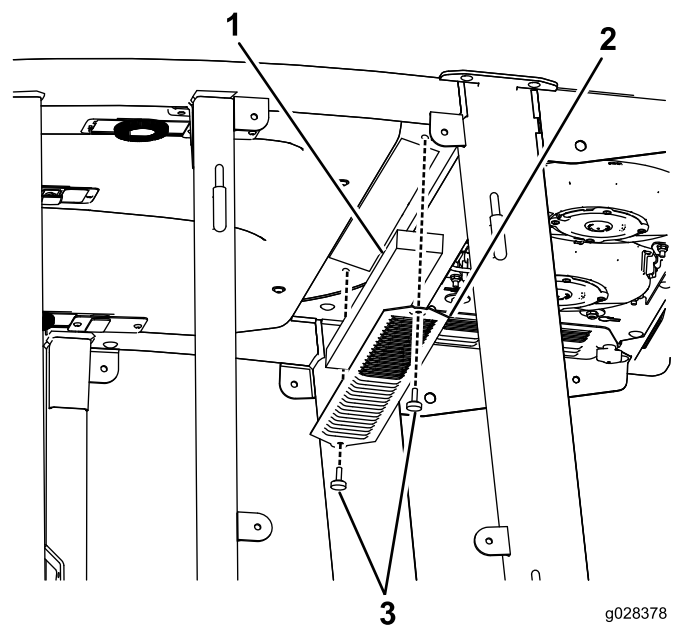

Figure 138
3. Remove the cabin roof of the cab by removing the 22 bolts that secure the roof (**Figure 138**).
4. Remove the air filters (**Figure 138**).
5. Remove and clean the air-conditioning coils (**Figure 138**).